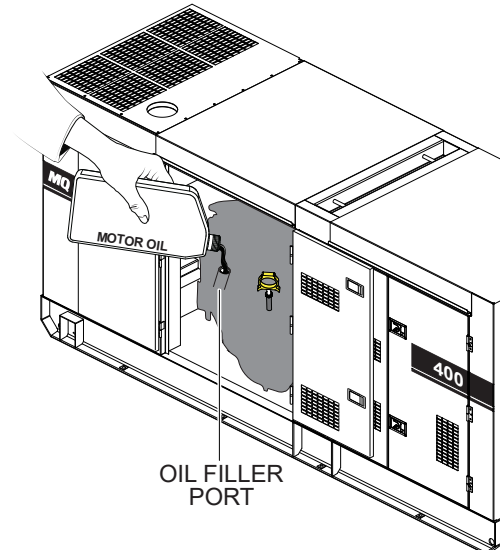

Figure 36. Engine Oil Filler Port
5. If the engine oil level is low (Figure 35C), remove the cap from the **oil filler port** (Figure 36) and fill to a safe operating level (max) as indicated by the dipstick (Figure 35A). Fill with recommended type oil as listed in Table 10. Maximum oil capacity is 15.1 gallons (57 liters).